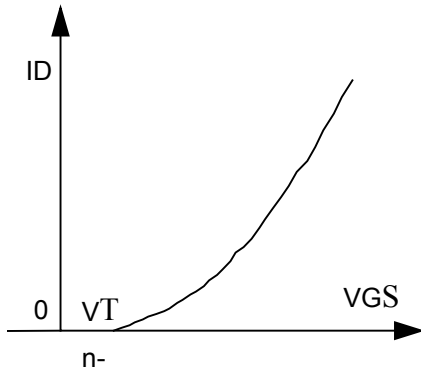

Figure 6 Transfer characteristic of N-Channel MOSFET
Figure 6 shows the output characteristics of an N-channel MOSFET. There are three regions of operation: (1) cutoff region, where $V_{GS} \leq V_T$; (2) pinch-off or saturation region, where $V_{DS} \geq V_{GS} - V_T$; (3) linear region, where $V_{DS} \leq V_{GS} - V_T$, due to high drain current and low drain voltage, the power MOSFETs are operated in the linear region for switching actions.